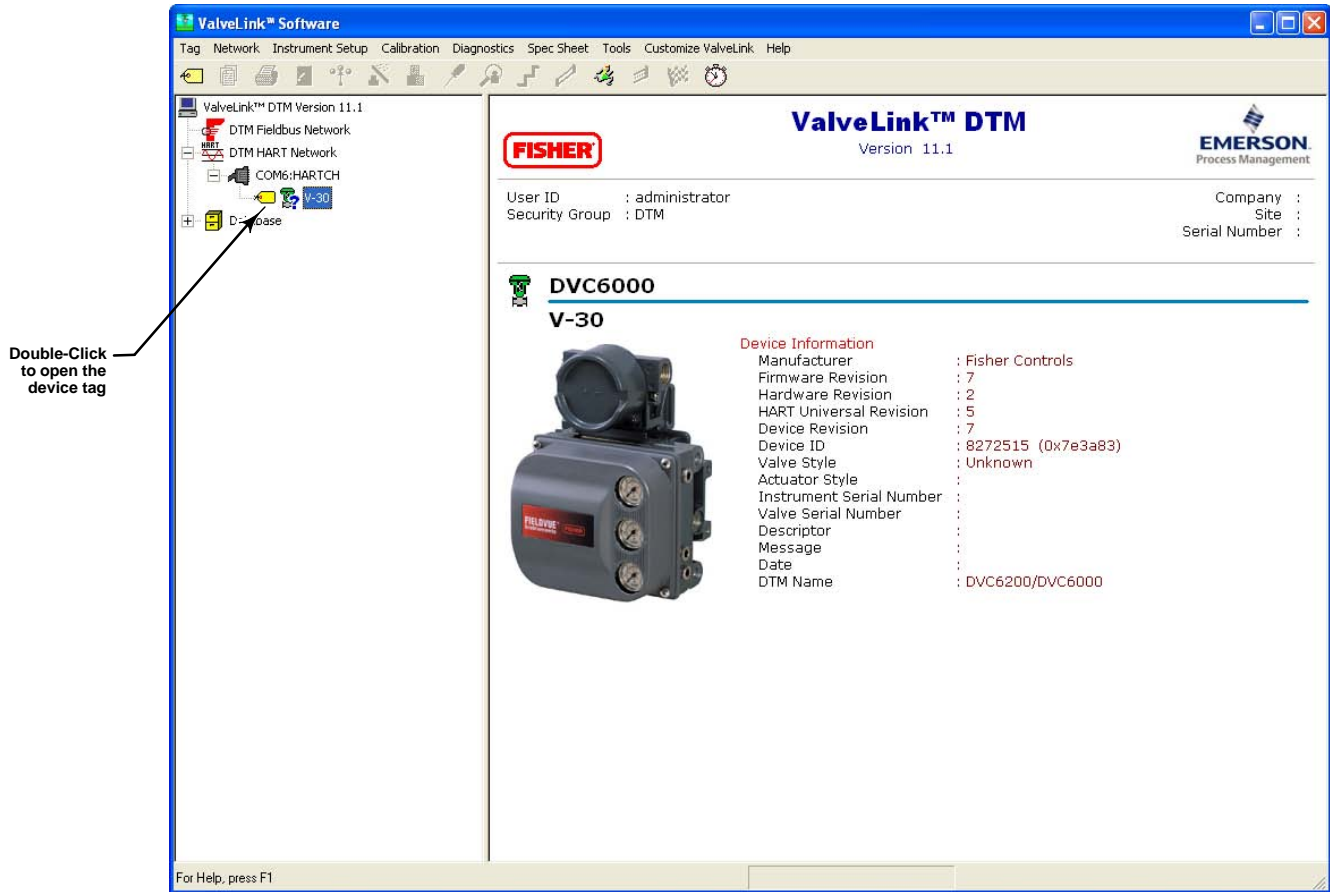

Figure 5-7. ValveLink DTM
**Step 7:** The ValveLink DTM will launch in a new window. All devices currently connected in the FDT frame application will show in the tree menu to the left of the ValveLink DTM window, as shown in figure 5-7. Double-click the device to open the device tag.